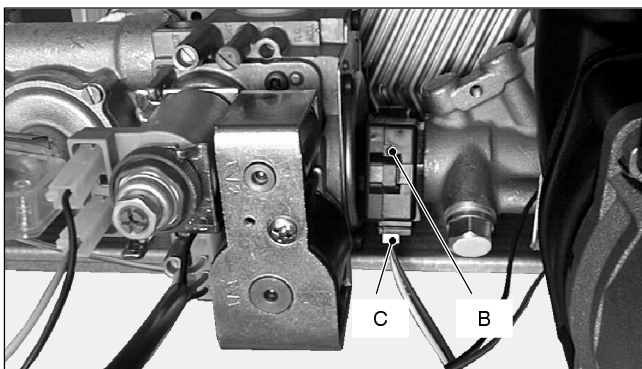

Fig. 58
- 2 Switch on the boiler and open a d.h.w. tap. The lamp *B* (Fig. 58) placed on the sensor body is switched on when the flow rate reaches about 2,5 litres/min'.
- 2 Disconnect the connector *C* (Fig. 58) and remove the sensor by pulling it towards the front of the boiler (the sensor is held in place by means of a spring).